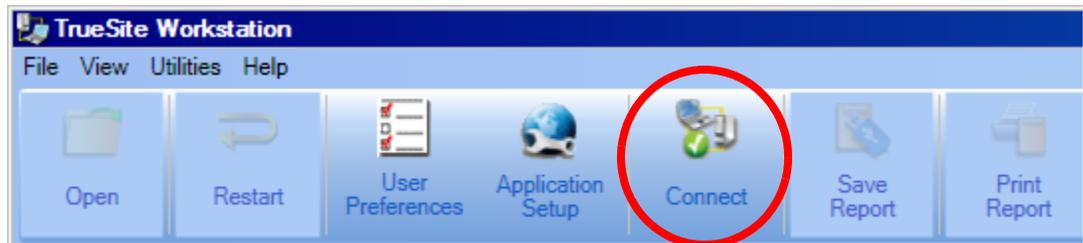

Figure 13-2 The Connect button on the TSW Remote Client
2. Click on the **Connect** button (Figure 13-2) to launch the **Connect** dialog box. This dialog box will be used to connect to the TSW application on the TSW PC.
Note: The **Select Which Remote Client** dialog will appear only if the **Supervised Remote Client** option is selected in the **Application Setup** button (Figure 13-2), prior to clicking **Connect**.